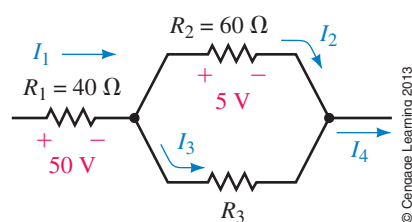

FIGURE 6–50
8. Find each of the unknown currents in the networks of Figure 6–51.